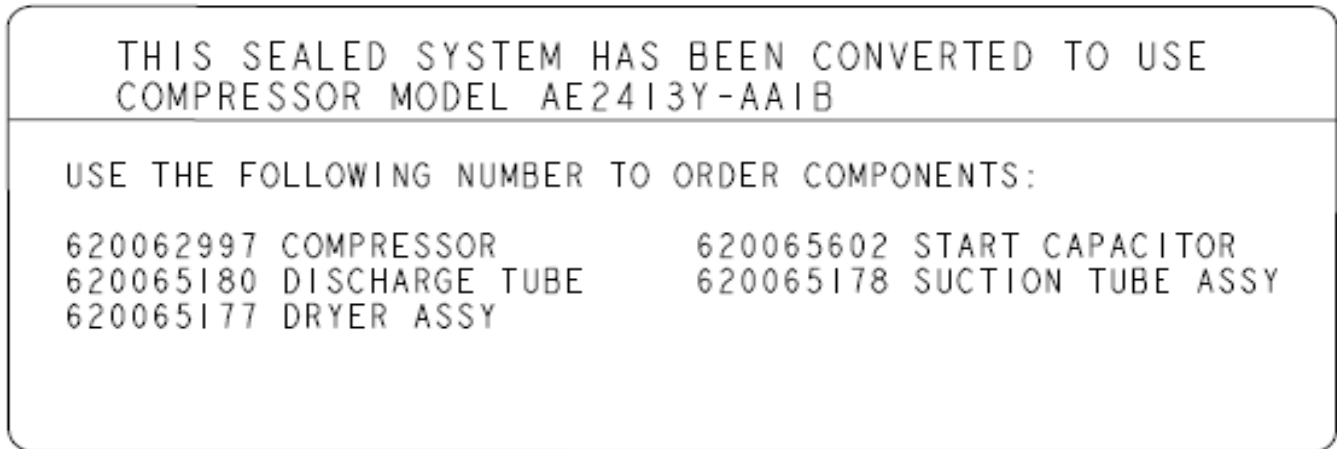

Figure 11. External Label
17. Put the label 620072544 on the back panel below the serial label. Refer Figure 11.